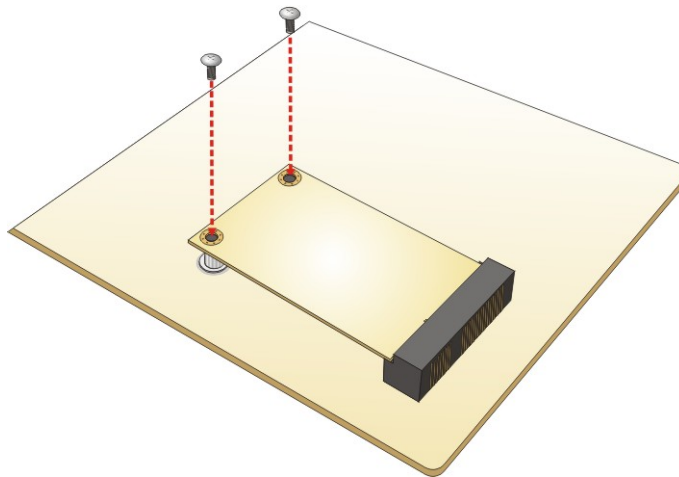

Figure 3-9: Securing the Full-size PCIe Mini Card
Step 5: Secure the full-size PCIe Mini card with the retention screws previously removed (Figure 3-9).